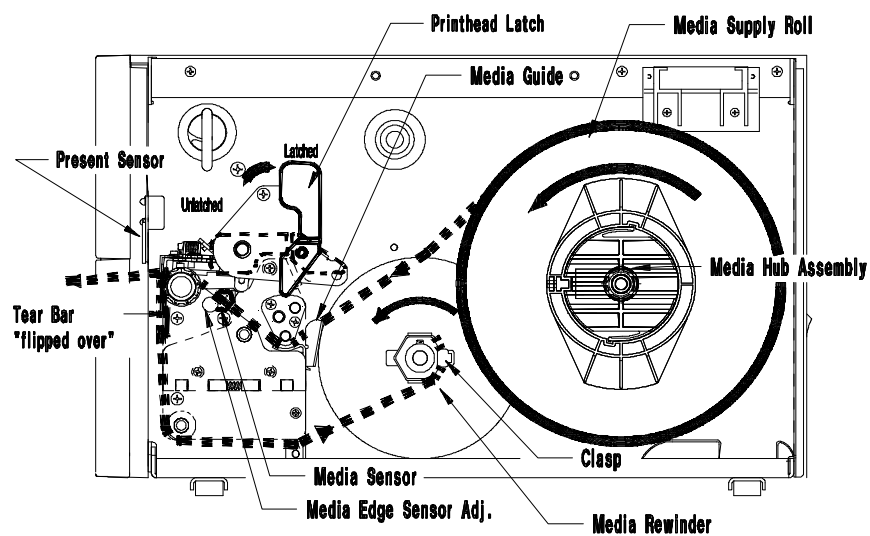

Figure 2-9 Installing Media using Peel and Present Option
7. Route the media liner (backing) around the Tear Bar to the Media Rewinder as shown in Figure 2-9.